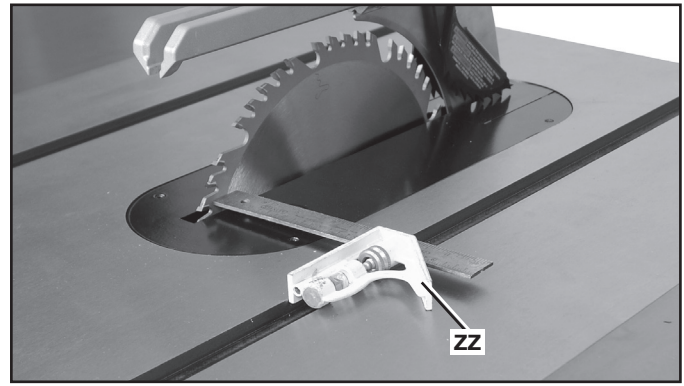

FIG. 46
1. Place a combination square (ZZ) Fig. 46 on the table with one edge of the square in the miter gauge slot. Adjust the square so that the ruler's edge touches the face of the saw blade at the forward position. Lock the square.